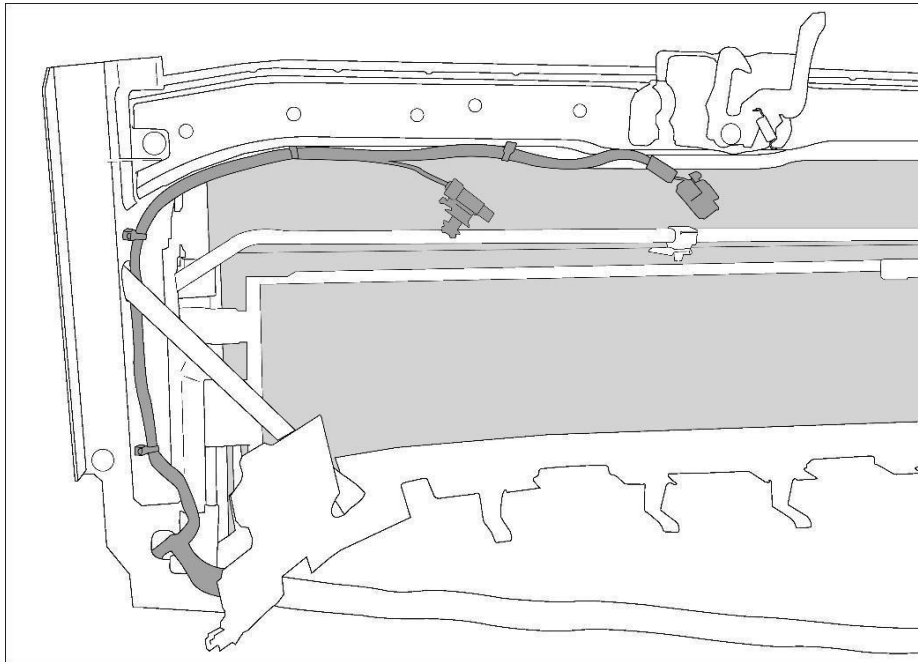

Figure 4 – Shown with Grille Removed
4. Unplug the camera harness and the hood latch harness. Remove Christmas tree securing the camera harness to the grill (fig. 4)